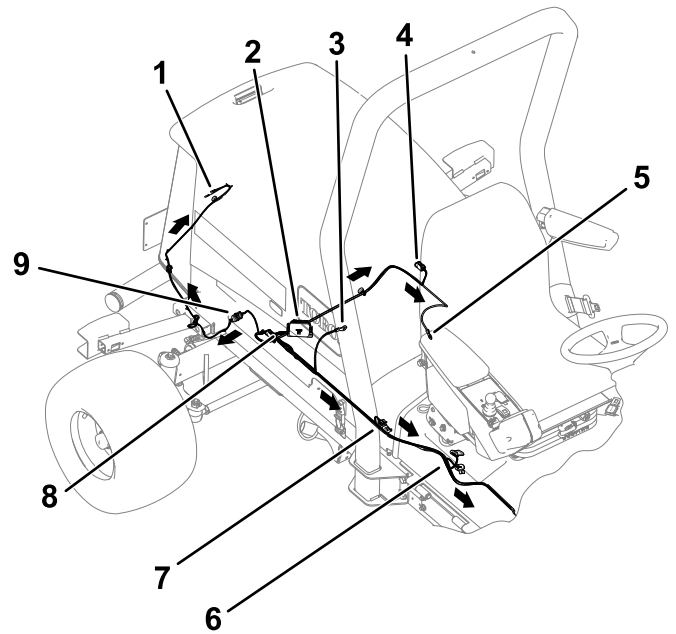
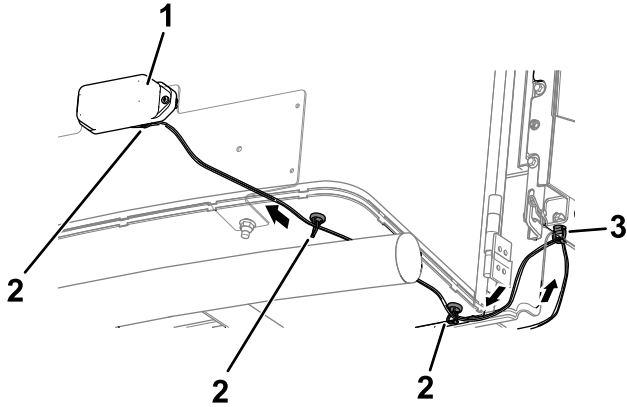

Figure 17
Figure 19
4. Route the wire harness to the left side of the machine as shown in Figure 17.
5. Connect the engine ground leg of the wire harness to the ground block (Figure 17).
6. Connect the wire harness to the right and left tail lights (Figure 17).
8. Use the long adapter harness to connect the wire harness to the registration plate lights. (Figure 17 and Figure 19).
Refer to Figure 19 for the appropriate magnet-tie-mount location on the machine.
9. Continue to route the wire harness along the right frame rail (Figure 17).
10. Connect the ring terminal to the starter (Figure 17).
11. Connect the wire harness to the beacon (Figure 17).
12. Connect the wire harness to the neutral switch (Figure 17).